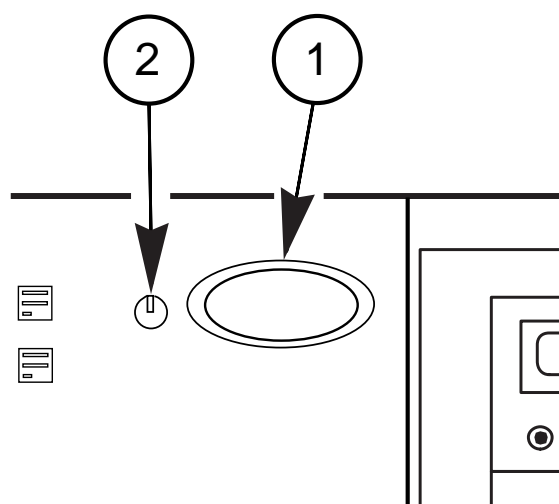

Figure 2-3. Server Power Switch and LED
6. If the server doesn't come on when you plug it into the AC outlet, press the system push-button on/off switch (Figure 2-3) on the front panel.